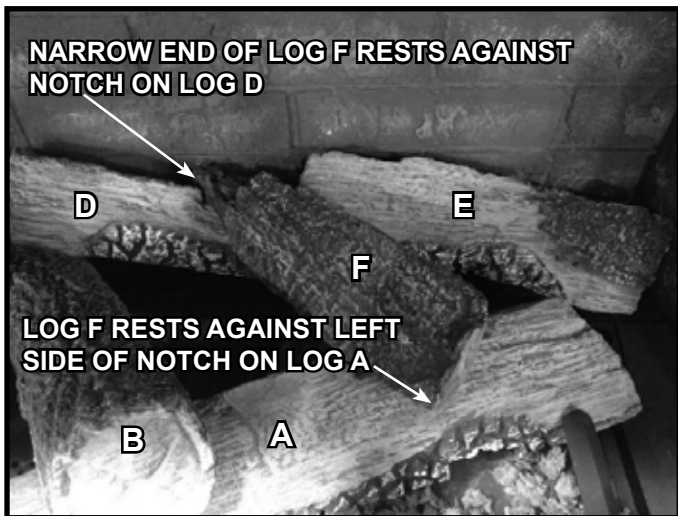

Figure 10. Log F Installed
6. **(LOG F):** Place the narrow end of Log F into appliance as shown in Figure 10. The narrow end of the log contacts the back refractory and rests against the notch on Log D. The front of Log F rests in the notch on Log A. Log F should contact the left edge of the notch on Log A.